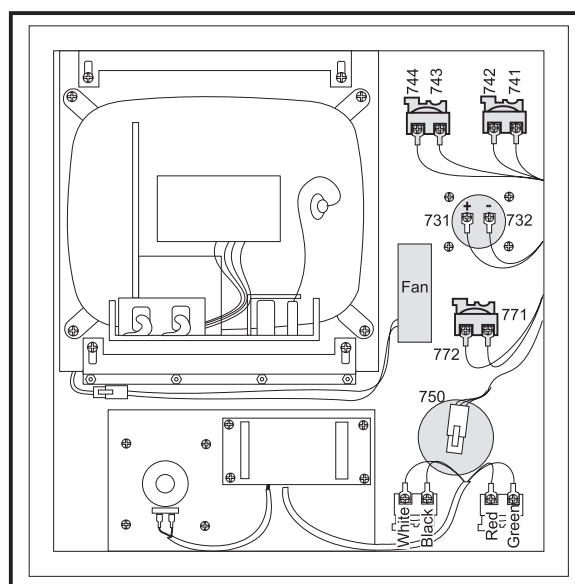

Figure 4-15. Interior of control panel (rear).
7. Replace by sliding the new assembly onto the eight bolts (four each on top and bottom). Starting with the bottom right, place the washers and hex nuts on the bolts to hold in place. Refer to Fig. 4-15 for the order of replacement. Once all washers have been attached and nuts have been hand-tightened, tighten down completely with the socket.
3. Disconnect all leads to the switch's connectors. Ensure all leads are properly marked for reconnecting later. Refer to Fig. 4-15 for proper locations.